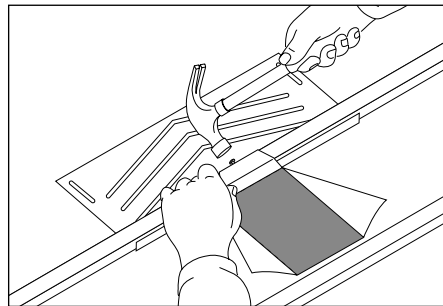

Fig. 2 - Cut and nail back underlay
- 7 Secure soaker tray by folding cut underlay over batten and nail into top edge of tiling batten above (Fig. 2).